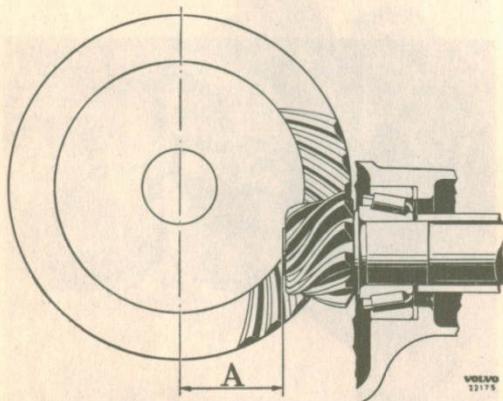

Fig. 5-23. Pinion location
5. Replace the press tool SVO 1845 with a washer and nut. Tighten the nut to a torque of 28–30 kgm. (200–220 lb.ft.) Then check the pinion bearing tension. It should be relatively easy to rotate the pinion (10–20 lb.in. = 11.–23 kgcm.). There should be no looseness. Bearing tension is adjusted by means of shims (26) on the forward pinion bearing.
6. There should be a certain nominal measurement (A, Fig. 5-23) to the center line of the ring gear. Due to tolerances in manufacture, however, there are deviations from this nominal measurement. The deviation is shown on the ground surface on the pinion by means of a figure with a plus or minus sign. If there is a plus sign in front of the figure, the nominal measurement is to be increased and in the case of a minus sign, the nominal measurement is to be decreased.